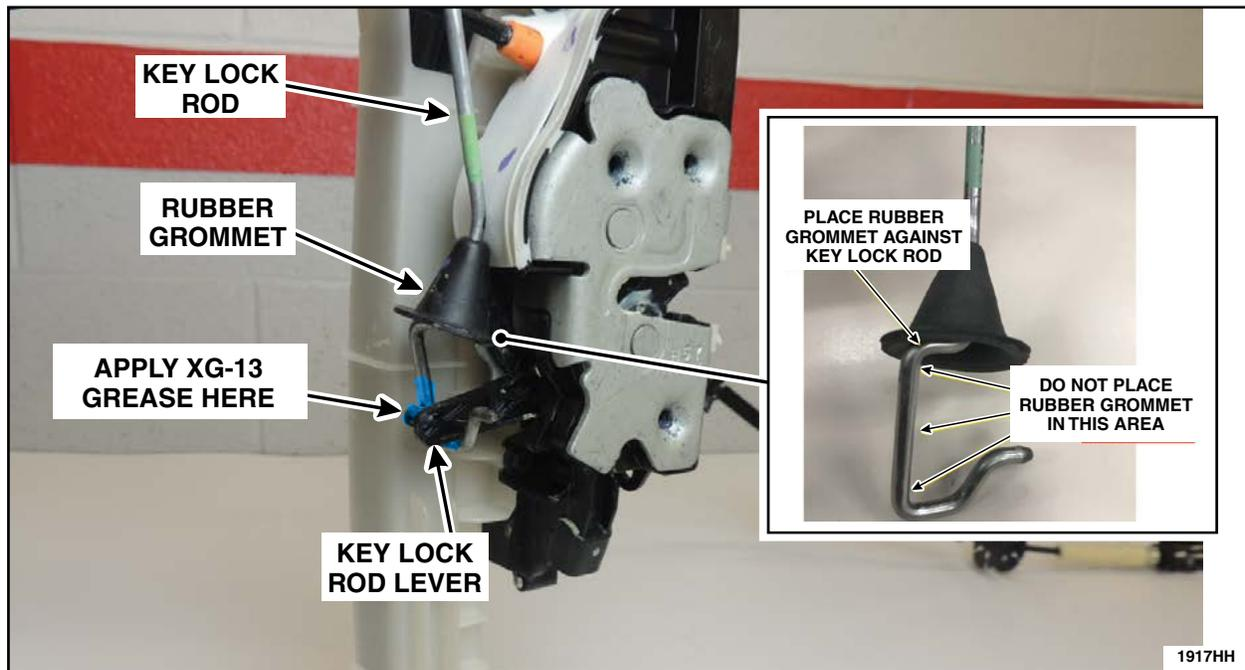

FIGURE 18
21. On the driver's side door only, apply Motorcraft® XG-13 door latch grease to the area where the key lock rod attaches to the key lock rod lever. See Figure 18.
22. On the driver's side door only, install the rubber grommet onto the key lock rod over the key lock rod lever. Position the rubber grommet as shown in Figure 18. The rubber grommet will sit sideways when properly installed.